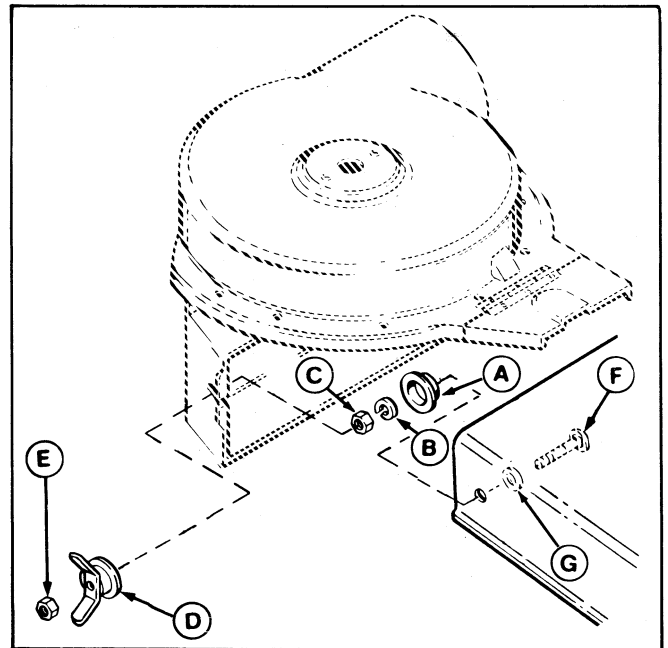

Figure 5.
6. Install wing nut (D, figure 5) assembly as follows. Insert 5/16-18 x 2-1/2 capscrew (F) and 5/16 washer (G) from inside the deck. Place the cup (A) onto the capscrew and install 5/16 lockwasher (B) and 5/16 nut (C). Tighten nut snug. Thread the wingnut (D) onto capscrew and install the 5/16 locknut (E) flush with end of screen.